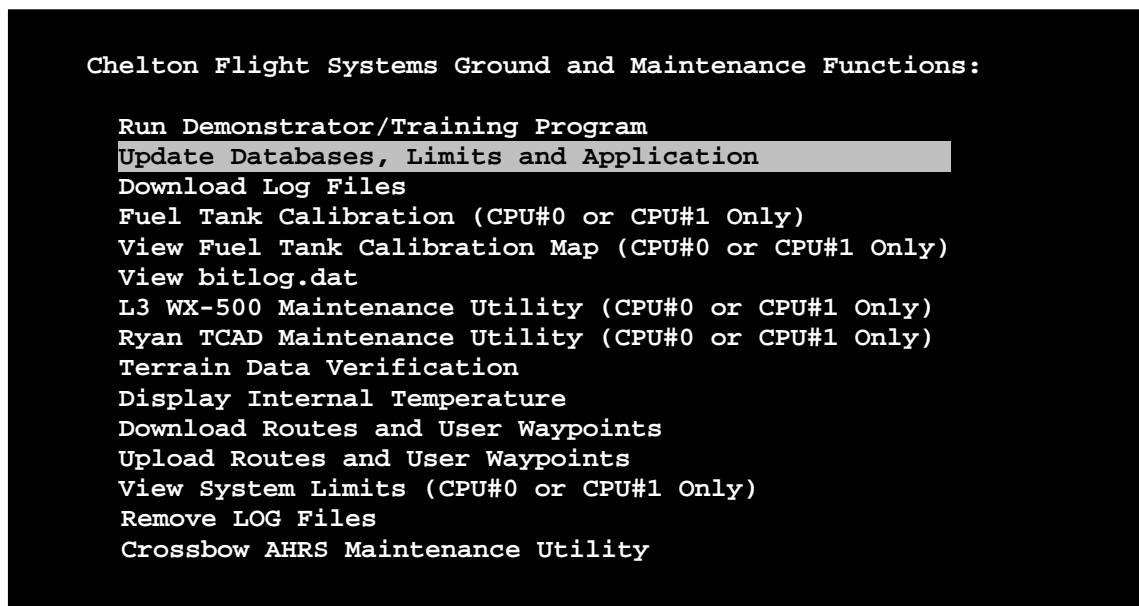

Figure 4 Update Databases, Limits and Applications
6. Rotate the right-hand encoder until the “Update Databases, Limits and Application” is highlighted then press in the right-hand encoder (See Figure 4).